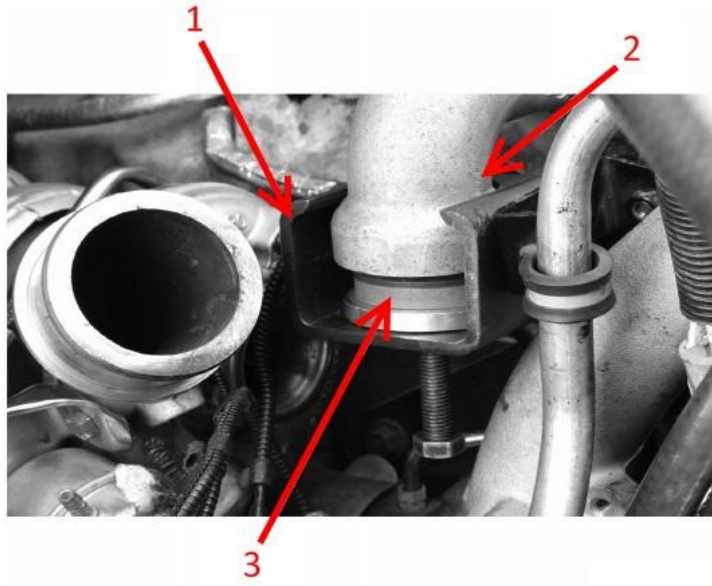

Figure 23: ISC Outlet Seal Installation
24. Position ZTSE4937-1A seal installer into ZTSE4937-4 (**Figure 23**, Item 1) press with new outlet lip seal (**Figure 23**, Item 3).
25. Tighten forcing screw until seal installer is flush with the bottom of the outlet (**Figure 23**, Item 2).